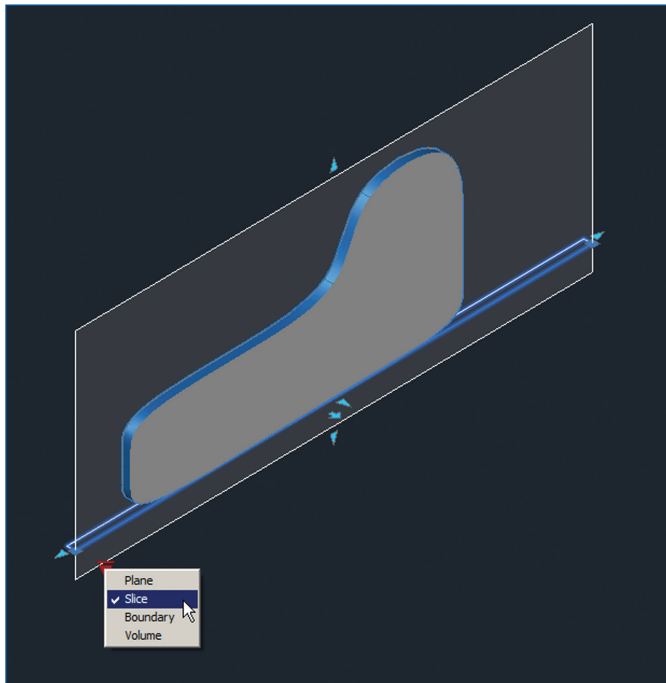

FIGURE 17.35 Configuring a 3D slice
4. Open the downward-facing triangular grip and select Slice from the context menu that appears. Type 0.5 in the Slice Thickness text box in the ribbon's Adjust panel that appears while you have the Section Object selected. A 3D slice is all that is visible of the object (see Figure 17.35).